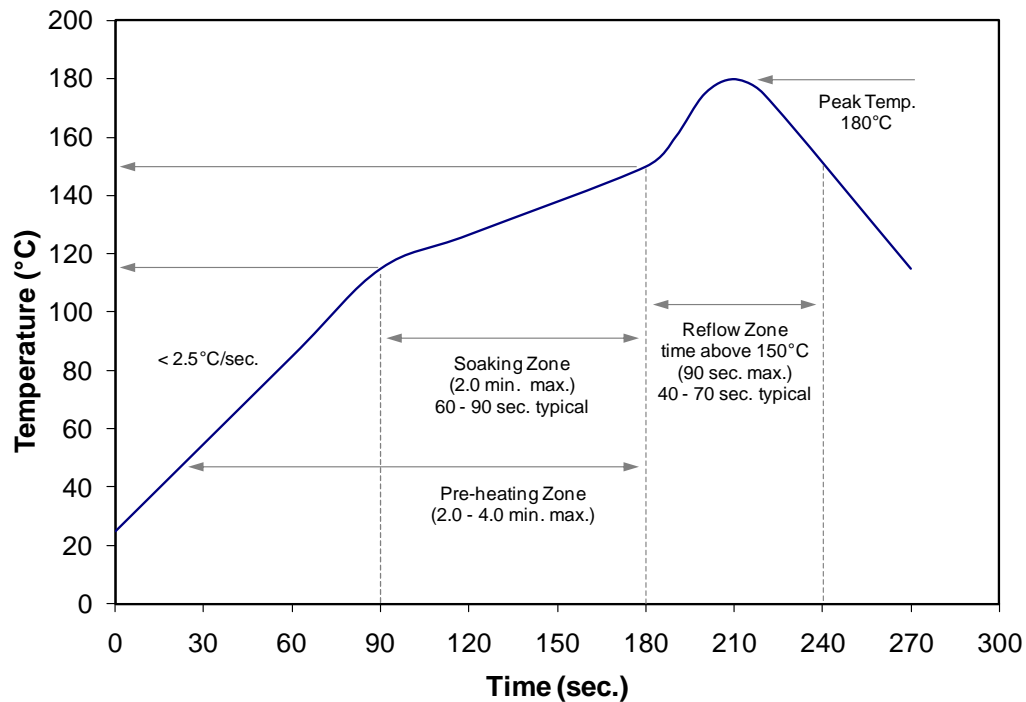

Figure 3: Reflow soldering profile for low temperature lead free soldering.
- Use low temperature solders. LED Engin recommends 58Bi-42Sn (wt.%) Solder. See Reflow Soldering Profile Figure 3.